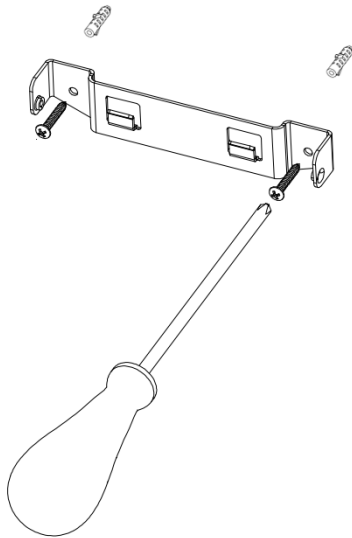

Fig. 3
- Use mounting bracket as a template to mark the screw hole positions on the wall. (Fig.3)
- Install the mounting bracket onto the wall by using appropriately sized mounting screws and anchors. Ensure the screws and anchors used are suitable for the mounting surface and the surrounding environment. (Fig.3)